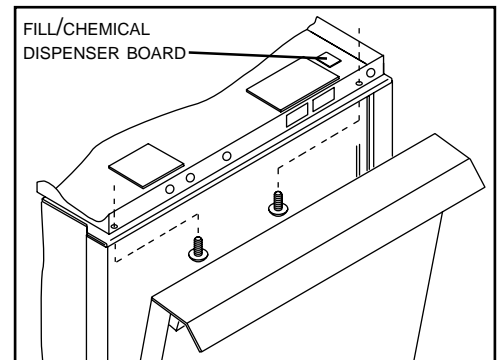

Figure 2.9.1
1. Loosen – do not remove – the (2) retaining screws at the bottom of the lower front access panel. Lift the lower panel up and forward to remove.
3. Refer to Fig. 2.9.1.